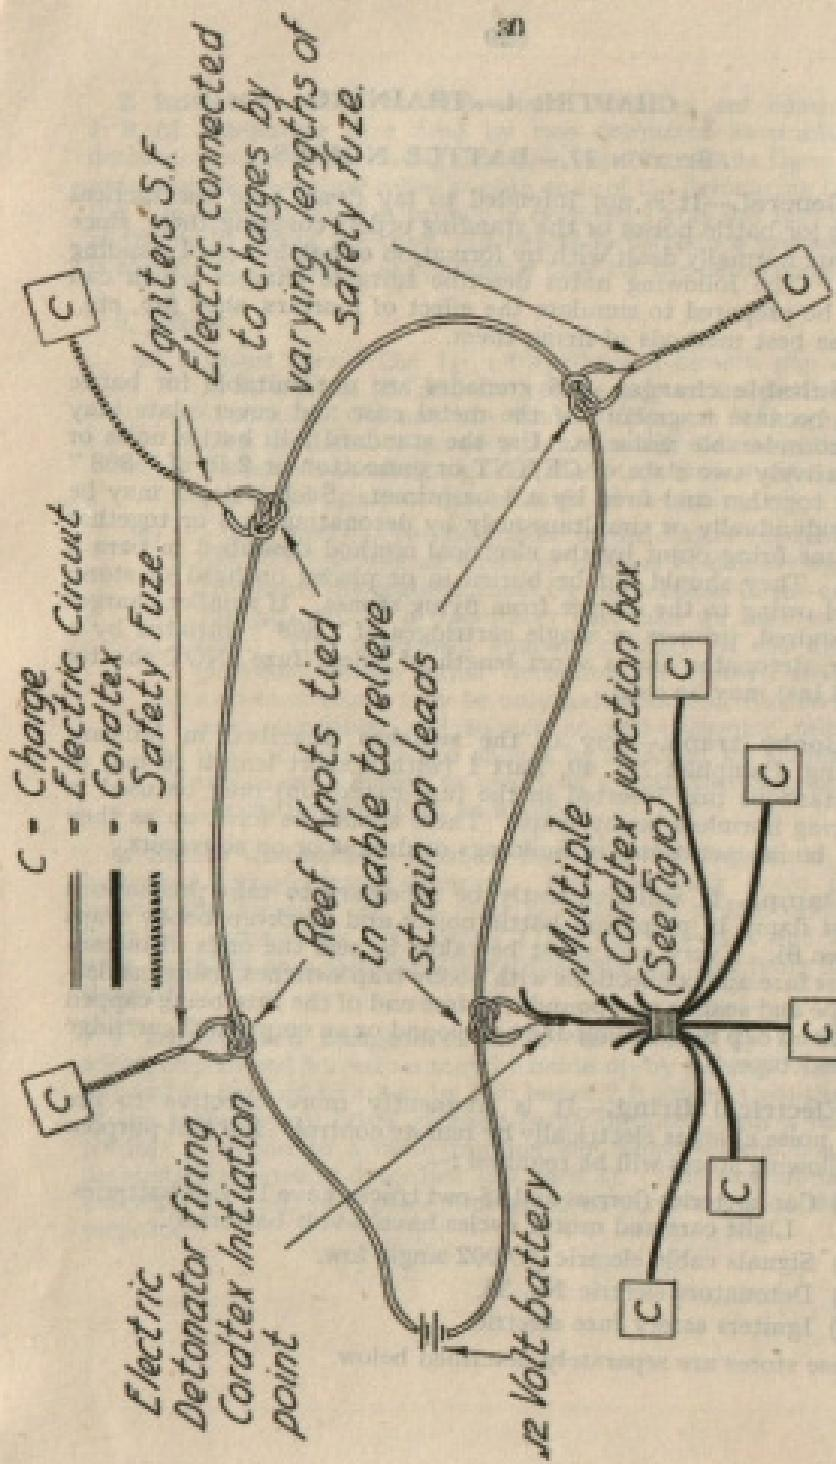

FIG. 20. Diagrammatic layout of electrical circuit for bottle section
6. **Detonator electric No. 33.**—This consists of a No. 27 detonator (see Sec 5) with an electric firing head on the top. When an electric current of sufficient strength is passed through the head a flash occurs which fires the detonator. A fully charged battery will produce sufficient current to fire a certain number of detonators connected in series with the battery through a given length of cable. The term "in series" means that the detonators are connected up by lengths of cable, the circuit starting at one terminal of the battery, passing through each detonator in turn and finishing at the other terminal (see Fig 20). Table 3 shows the number of No. 33 detonators or igniters which can be fired by standard 6- and 12-volt batteries through different lengths of cable, assuming batteries **FULLY CHARGED**.